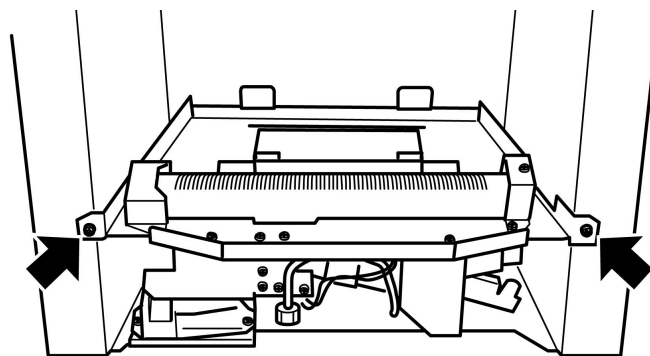

Figure 10. Burner attachment points
1. Detach the burner unit from the hotbox by removing two screws (See figure 10). Lift the burner unit clear.